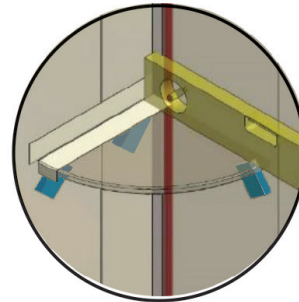

FIG 25.
- Place shelf in position and check for level. Optional - apply masking tape to shelf/wall (FIG 25).